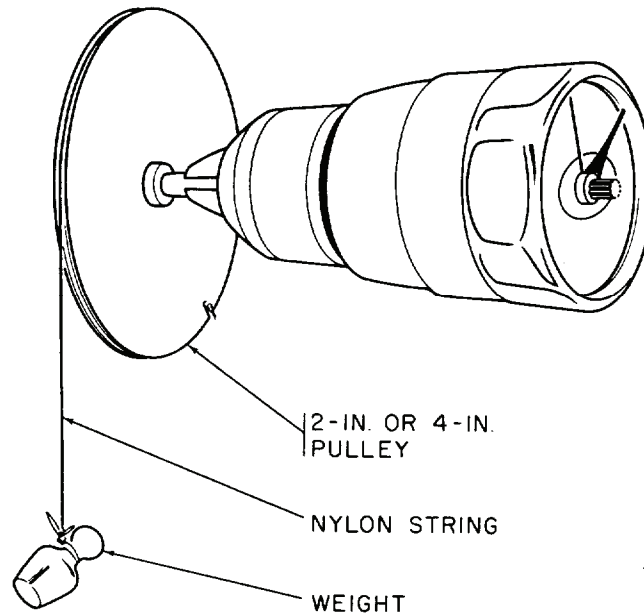

Figure 1. Bidirection and range checks - equipment setup.
b. Connect low torque measuring pulley and weight to TI as shown in figure 1.